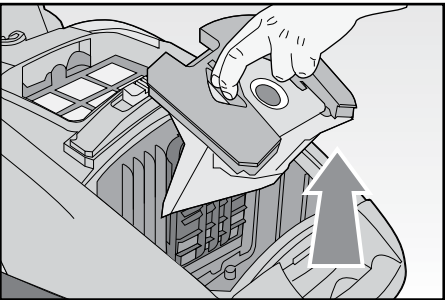
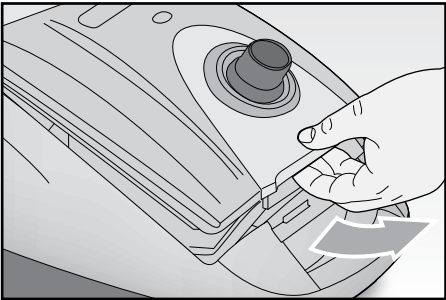

Fig. 8
Fig. 7
- lift the bag compartment by pushing the relevant lever outwards (FIG. 7);
- Remove the bag (FIG. 8), taking care not to tear it; slide the stiff plastic section along the special guides. Wash the bag in water and a mild detergent, if necessary.
- Open the division (FIG. 7) and remove the small bag (FIG. 8).
- Open the bag division pushing the apposite lever outside (FIG. 7).